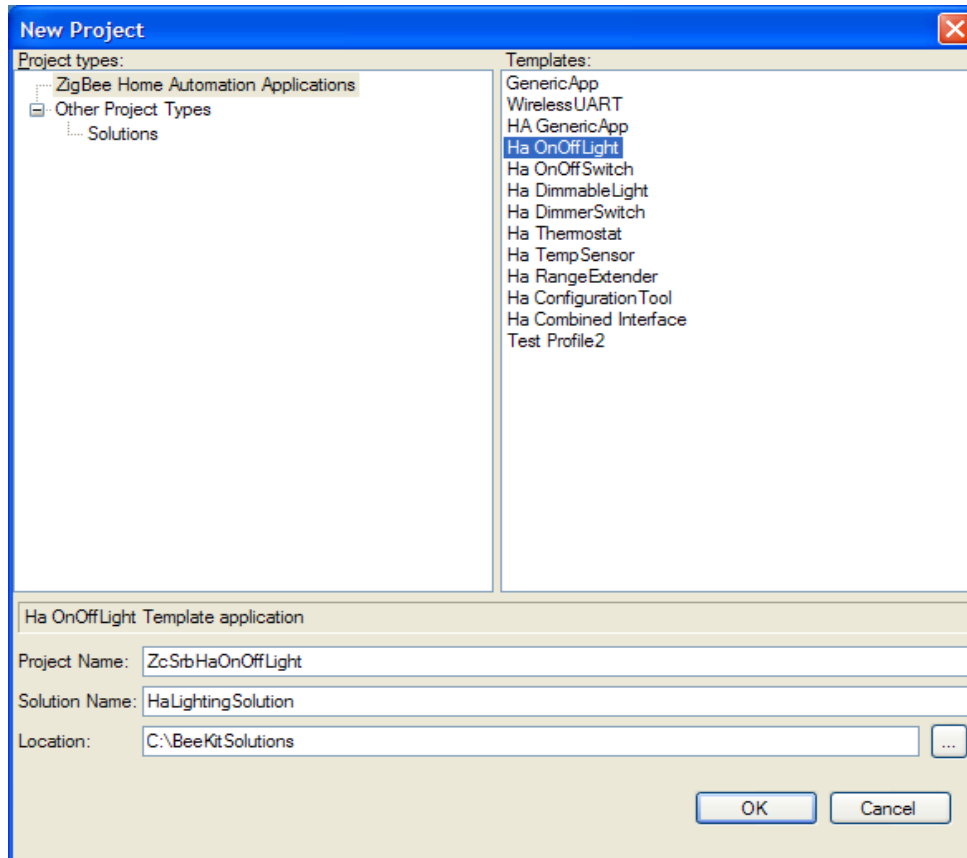

Figure 3-2. Project/Template Select
- As shown in Figure 3-2, select the HaOnOffLight template.